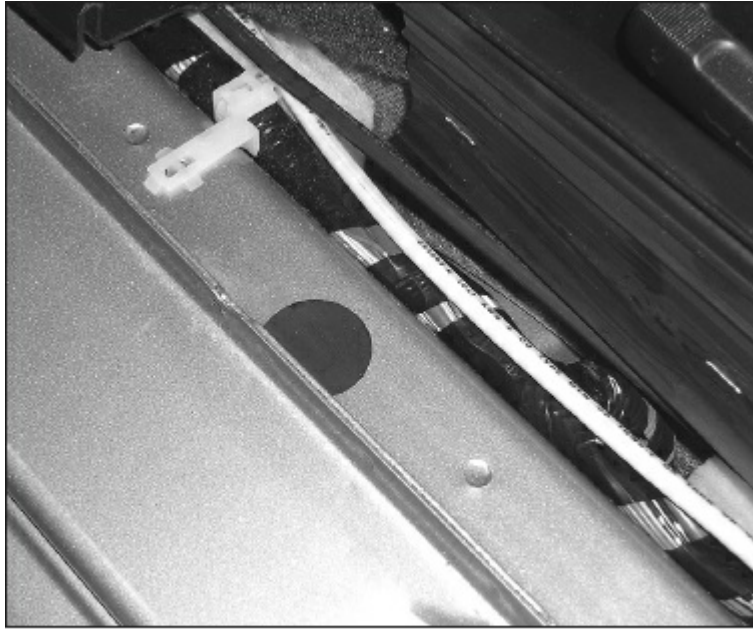

Figure 24.26 — Most vehicles have wiring troughs hidden behind interior body panels.
- Wiring needs to be shortened and/or bundled with appropriate wire ties to avoid interaction with passengers and mechanical devices.. **Figure 24.26** shows a typical vehicle wiring tray.